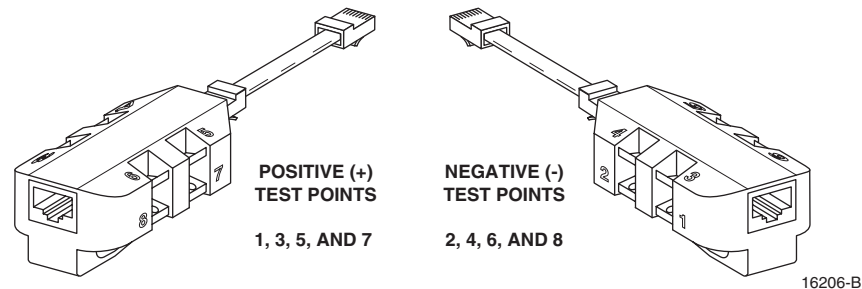

Figure 29. RJ-45 Circuit Access Tool Pin/Wire Designations
4. Using a DC voltmeter, verify that the DC voltage level is between 34 and 48 VDC between any set of positive and negative (+/-) terminals at the RJ-45 circuit access tool as shown in Figure 29. Due to source current limiting at the DHU or DEU, low voltage can mean excess wire resistance, low source voltage, or excess remote current.
6. Use the DC voltmeter to check for open pin connections by checking for voltage between the +/- pairs on the RJ-45 circuit access tool (see Figure 29).